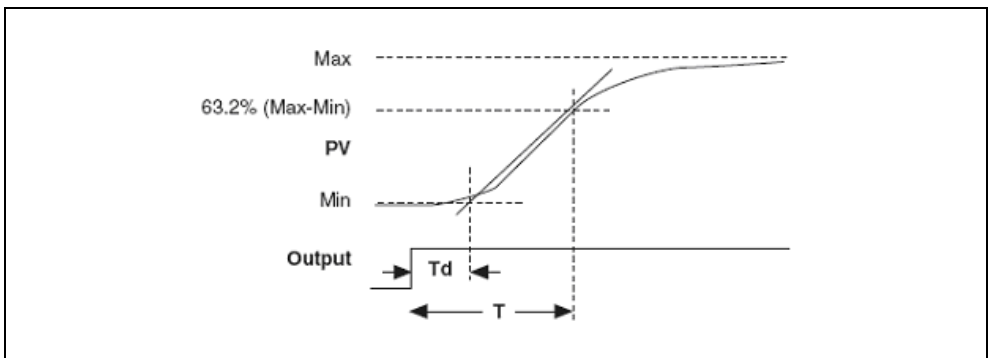

Figure 3-1. Output and Process Variable Strip Chart
3. Wait for the PV to settle. From the chart, determine the values as derived from the sample displayed in Figure 3-1. The variables represent the following values: